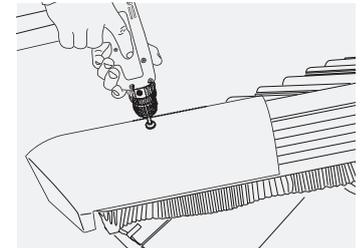

Fig. 10 – Fixing Block End Hip tile
- 10 Fit a purpose designed Block End Hip tile tight against eaves tiles and trim the Block End if required to suit the height of the guttering. Fix Block End Hip tile through HipFast Hip Support Tray to hip batten using 75mm x 4.8mm screw and sealing washer provided. Tighten securely to ensure a firm seal (Fig. 10).